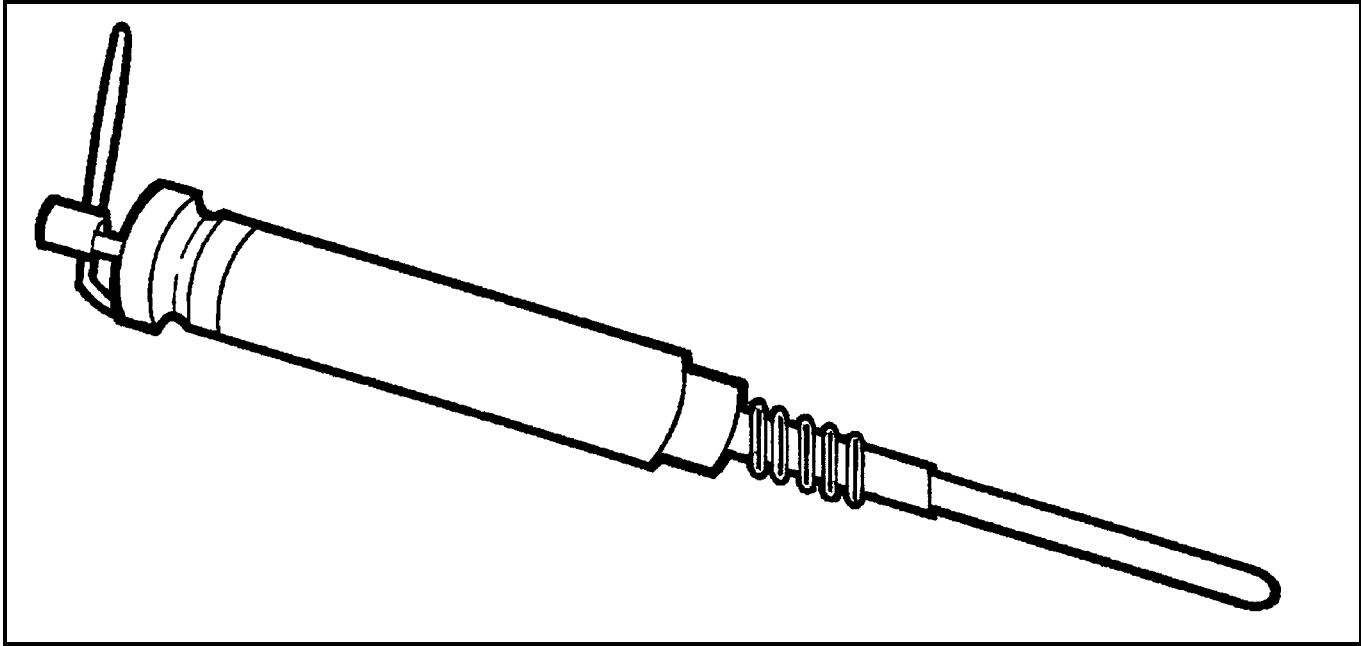

Figure 6 Firing Device and Percussion Cap Assembly
- j. Unwind the shock tube, avoiding all kinks and sharp bends. Lead back to the firing point location and attach the percussion firing device. Mine is now ready for command firing by the operator (See Figure 6).